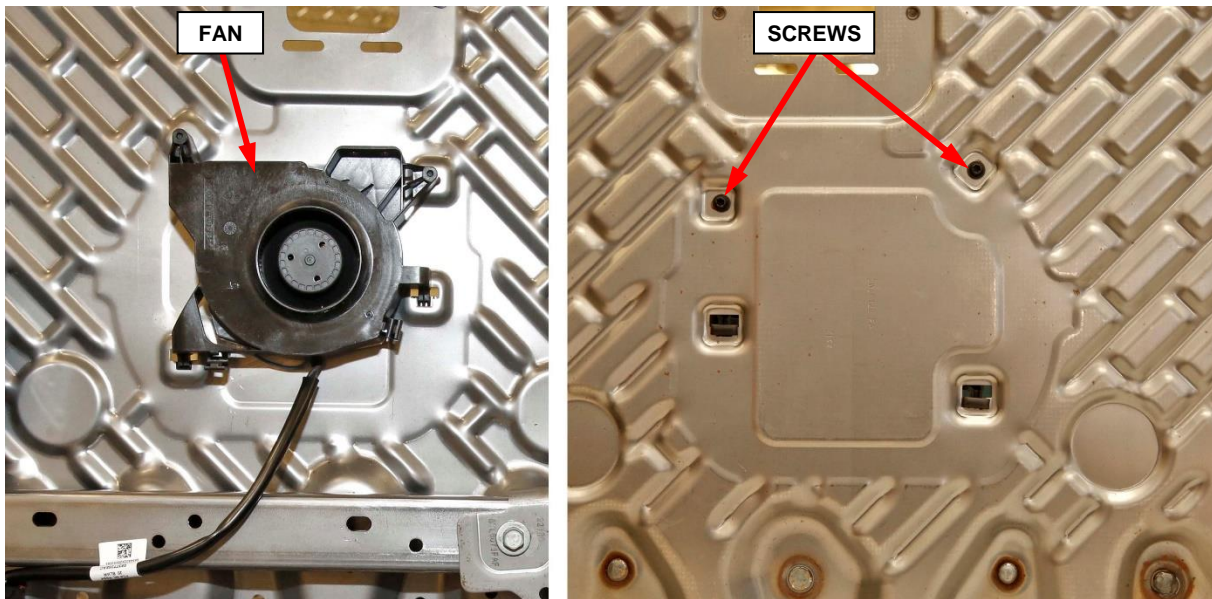

Figure 90 – Seat Fan
39. Remove the two screws securing the seat fan then remove the seat fan from the seat back frame (Figure 90).
41. Install the seat fan to the seat back frame then secure with the two screws (Figure 90).